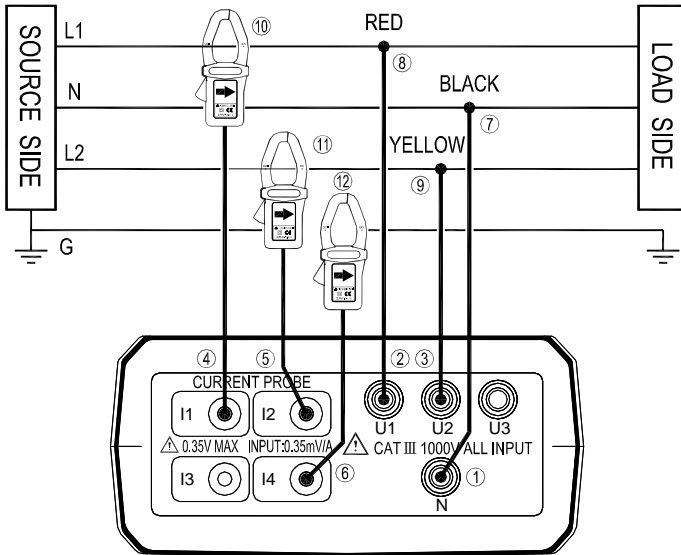

Figure 7. 1P3W Wiring Connection Diagram
- ① Connect the black voltage test lead to the “N” terminal.
- ② Connect the red voltage test lead to the “U1” terminal.
- ③ Connect the yellow voltage test lead to the “U2” terminal.
- ④ Connect the I1 current probe to the “I1” socket.
- ⑤ Connect the I2 current probe to the “I2” socket.
- ⑥ To measure ground leakage current, connect the I4 current probe output plug to the **“I4”** socket.
4. Connect the voltage test leads and current probes to the electrical equipment to be tested as shown in Figure 7. 1P3W Wiring Connection Diagram.